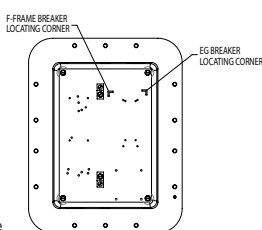

Figure 3
1. Install the circuit breaker/HMCP LINE side up. Using the supplied mounting plate template sheet, identify the circuit breaker/HMCP mounting holes in the mounting plate. The mounting plate template is for hole reference purposes only and should not be used within the assembly. Use punched corner marks in mounting plate (see Figure 3) to help locate circuit breaker/HMCP. Figure 3 shows size A body. Similar setup is used for sizes B and C.